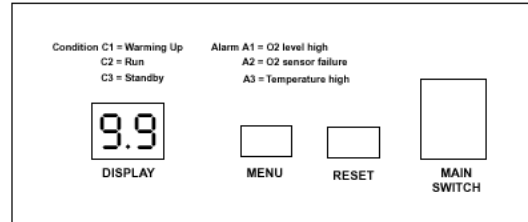

Figure 11. Checking Oxygen Level
6. Press the menu button on the control panel to read the oxygen level (figure 11).